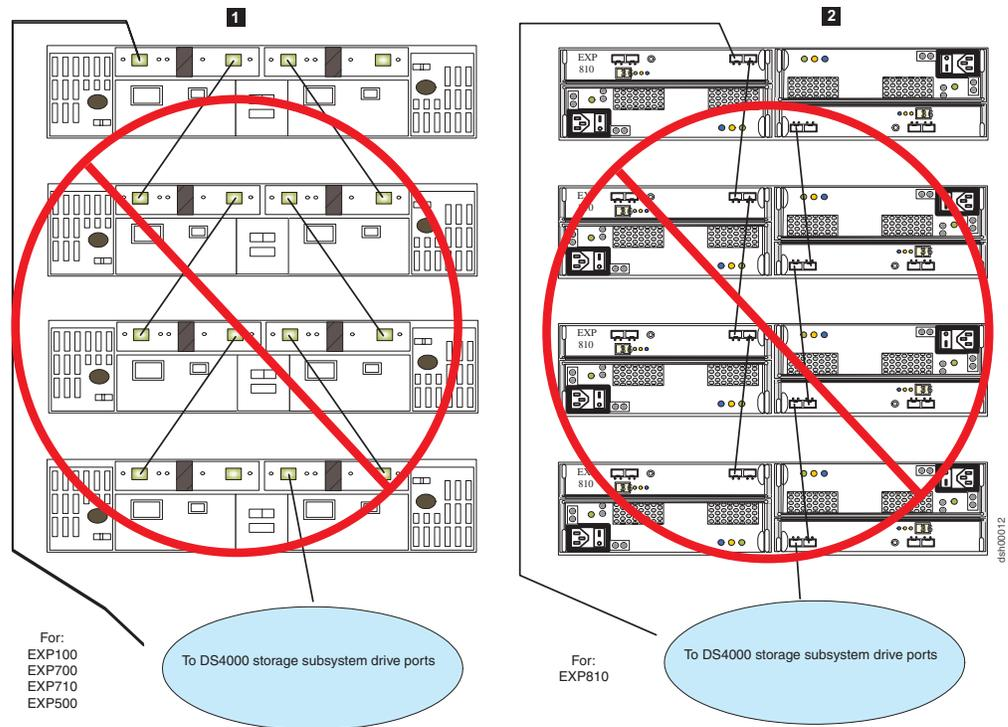

Figure 14. Unacceptable cable loop scheme for connecting DS4000 storage devices
**Note:** The cable loop scheme in Figure 14 is unacceptable because both drive loops are connected to the IN port of the EXP700. Although this restriction does not specifically apply to other storage expansion enclosures, you should still avoid connecting both drive loops in the IN port to prevent accidental miscabling in the EXP700 environment.